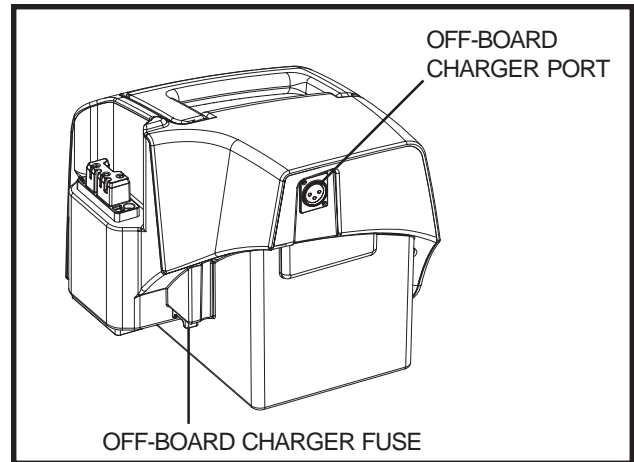
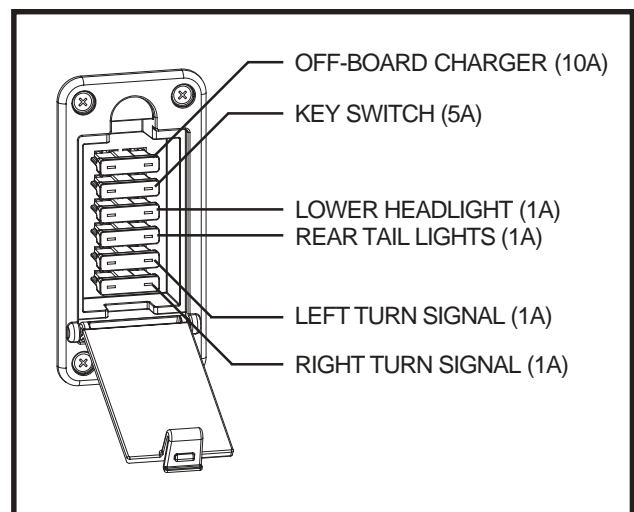

Figure 5A. Off-board Charger Port (Battery Box Mounted)
Figure 6. Tiller Console Fuses
Your scooter is equipped with a series of electrical system fuses, which help protect the off-board charging system, key switch, and lighting system from receiving an overload of electrical current. These fuses are the same type used in automobiles and are located in a compartment on the tiller. See figure 6. If your scooter is equipped with battery boxes, a separate 10-amp fuse is located on the right battery box. See figure 5A. This fuse protects the off-board charging system when the batteries are charged off of the scooter. See IX. “Care and Maintenance” for fuse replacement.
5. Plug the 3-pin charger power cord into the off-board charger port on the right battery box. **See figures 5A and 10A.**